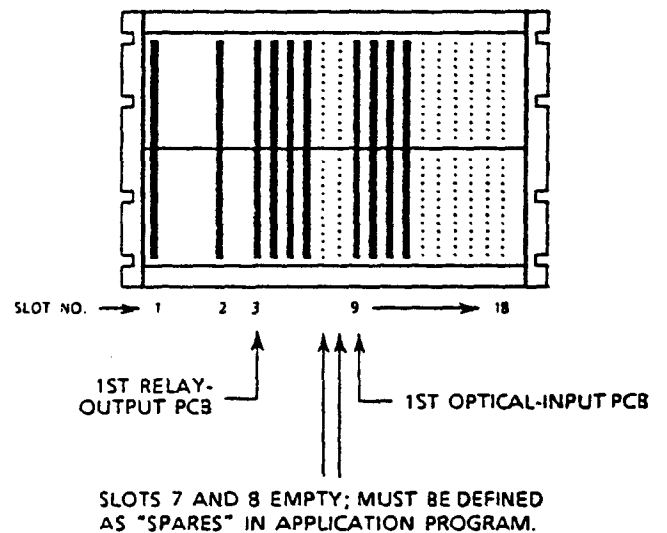

Figure 2-2. GENISYS Cardfile PCB Arrangements
2.2.1 Cardfile (see page v and Figure 2-2)
The GENISYS Non-Vital Logic Emulator is housed in a standard 19 inch rack-mount cardfile. The cardfile always contains a power supply converter PCB in the far lefthand slot, a controller PCB in the second slot and between zero and 16 relay-output and/or optical-input PCBs in the remaining slots. When relay-output PCBs are present, they are always placed as a group to the left of any optical-input PCBs. Empty slots are allowed between relay-output and/or optical-input boards provided these slots are defined as "spares" in the application program. For example, in Figure 2-2, empty slots 7 and 8 ("spare") allow future expansion of outputs without having to reconfigure the inputs.
US&S provides three different relay-output PCBs for the output group of the GENISYS cardfile (see Figure 2-2). The cardfile need not contain any relay-output PCBs, or may contain these PCBs in all cardfile slots (maximum of 16). Applicable PCBs are as follows:
US&S provides two different optical-input PCBs for the input group of the GENISYS cardfile (see Figure 2-2). Each is designed to handle different input voltage ranges and types. The cardfile need not contain any optical-input PCBs, or may contain these PCBs in all cardfile slots (maximum of 16). Applicable PCBs are as follows: